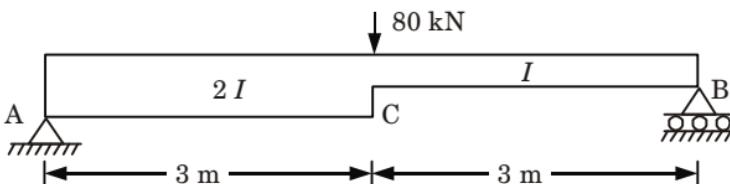

Fig. 3.21.1.
**Que 3.21.** Determine the slopes at supports and deflection under the load for the beam shown in Fig. 3.21.1. Take Young's modulus E as 210 GPa, moment of inertia as  $120 \times 10^6 \text{ mm}^4$ . Adopt conjugate beam method.